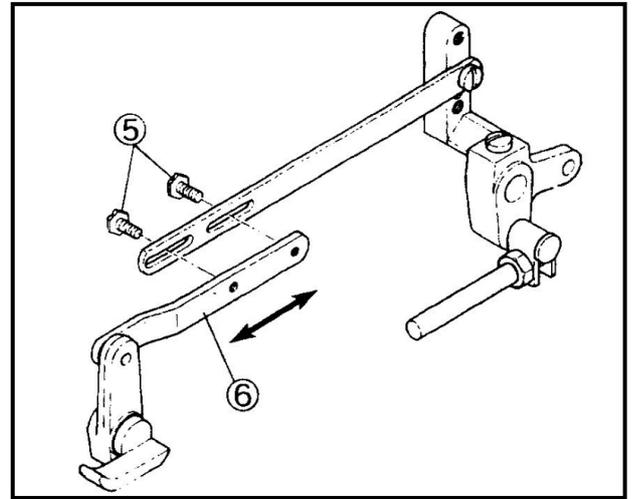

Fig.6
- (2) 放鬆壓腳連接桿螺絲 ⑤。(Fig.6)
- (3) 移開壓腳連接桿（短） ⑥ 右邊或左邊去調整間隙。
- (2) Loosen the screw ⑤ of the presser foot lifter lever link (long). (Fig. 6)
- (3) Move the presser foot lifter lever link (short) ⑥ right or left to adjust the clearance.